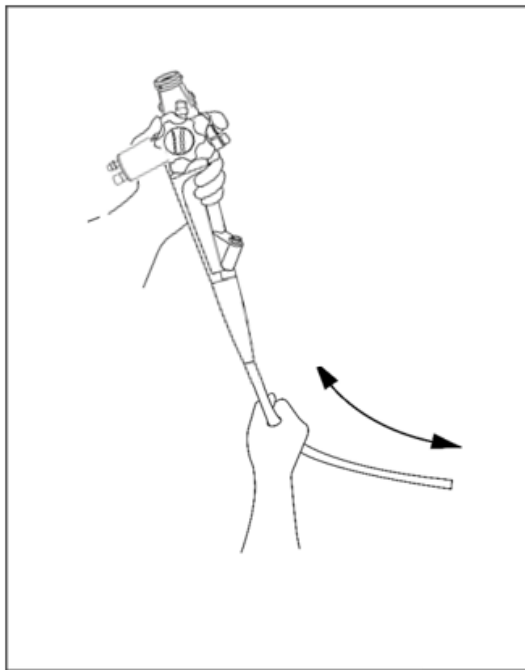

Figure 3.14
4. Gently stroke the entire insertion section surface in both directions with your hand (as shown in Figure 3.14). Make sure that there are no objects or metal wires in the insertion section protruding and getting stuck in the hand, and that the insertion section is not abnormally stiff.